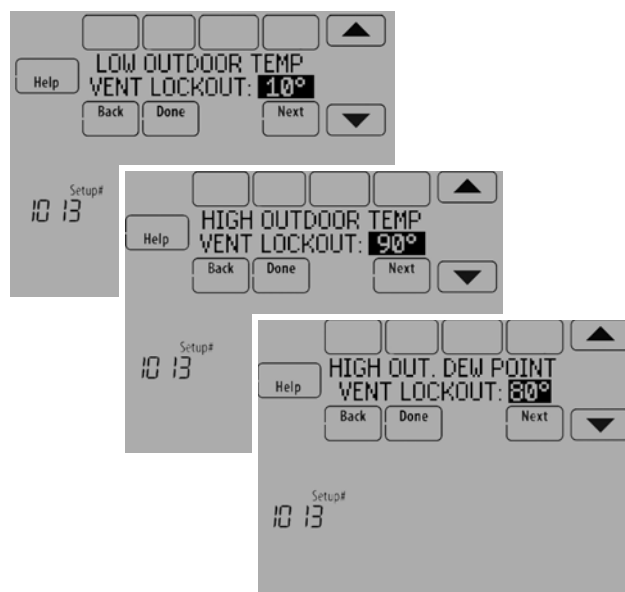

Fig. 234.
9. Select the Outdoor Condition Lockouts. See Fig. 234. See “Ventilation — Outdoor Condition Lockouts (ISU 1013)” on page 93 for more information.